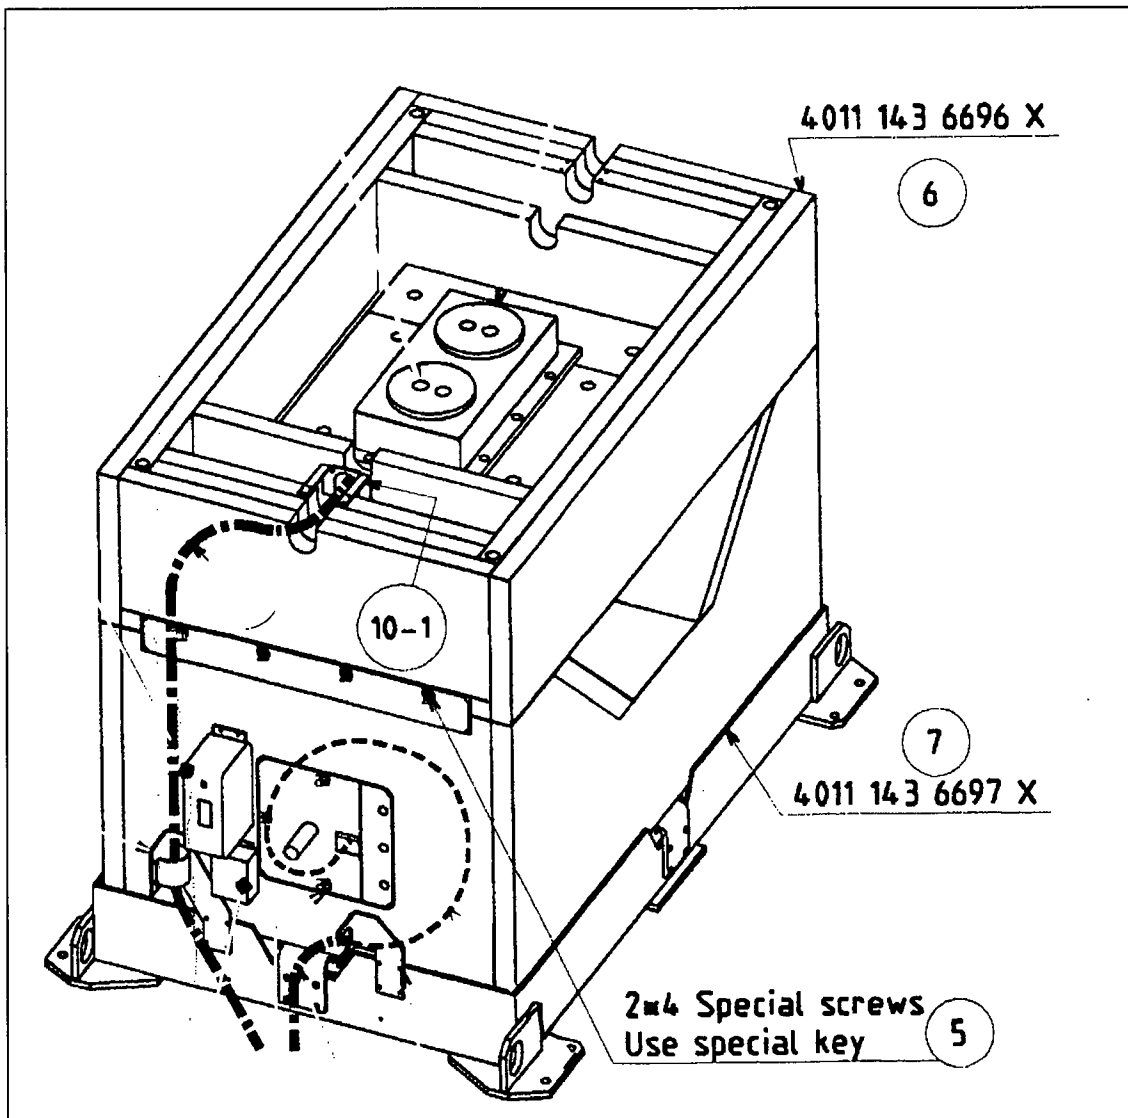

Figure 27 - Measurement Chamber
- ☐ Unbolt the upper part from the lower part. Use the special key to unscrew the 4 upper bolts (Figure 27 reference mark 5) on each side. The special key is delivered in the « kit of accessories » box.
- ☐ Use a crane to lift and move the upper part of the measurement chamber (Figure 27, reference mark 6) and lay on blocks, in order to avoid laying the detection unit on the ground. The weight of the upper part is 470 kg.
- ☐ Use a crane to lift the upper part (see Figure 27, reference mark 6) onto the lower part. Make absolutely sure that the hanging system for the cable (see Figure 27, reference mark 10-1) is in the same direction as the access hatch for the MEN.
- ☐ Bolt the upper part onto the lower part. Use the special key to screw in the 4 upper bolts (see Figure 27, reference mark 5) on each side. The special key is delivered in the « kit of accessories » box. Remove the red lifting eyebolts from the upper part.